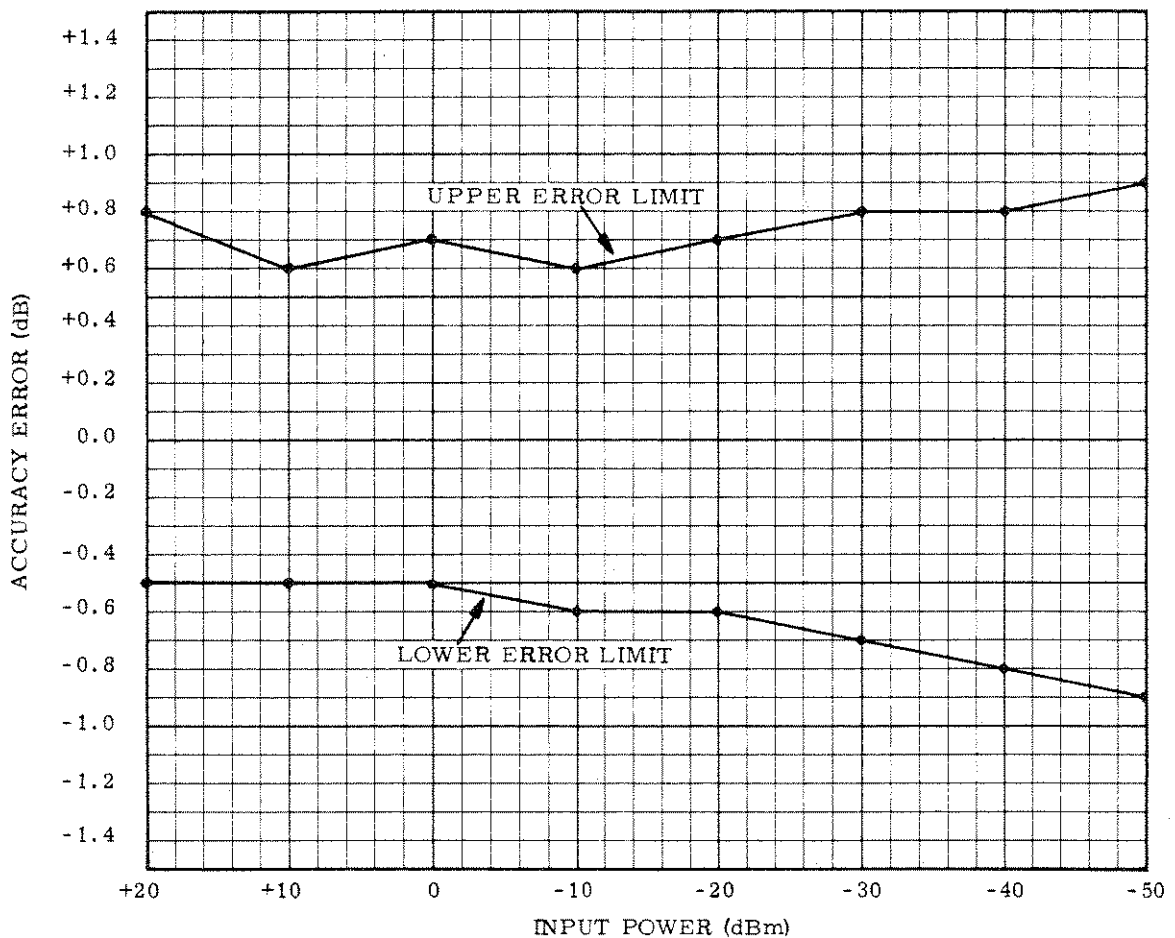
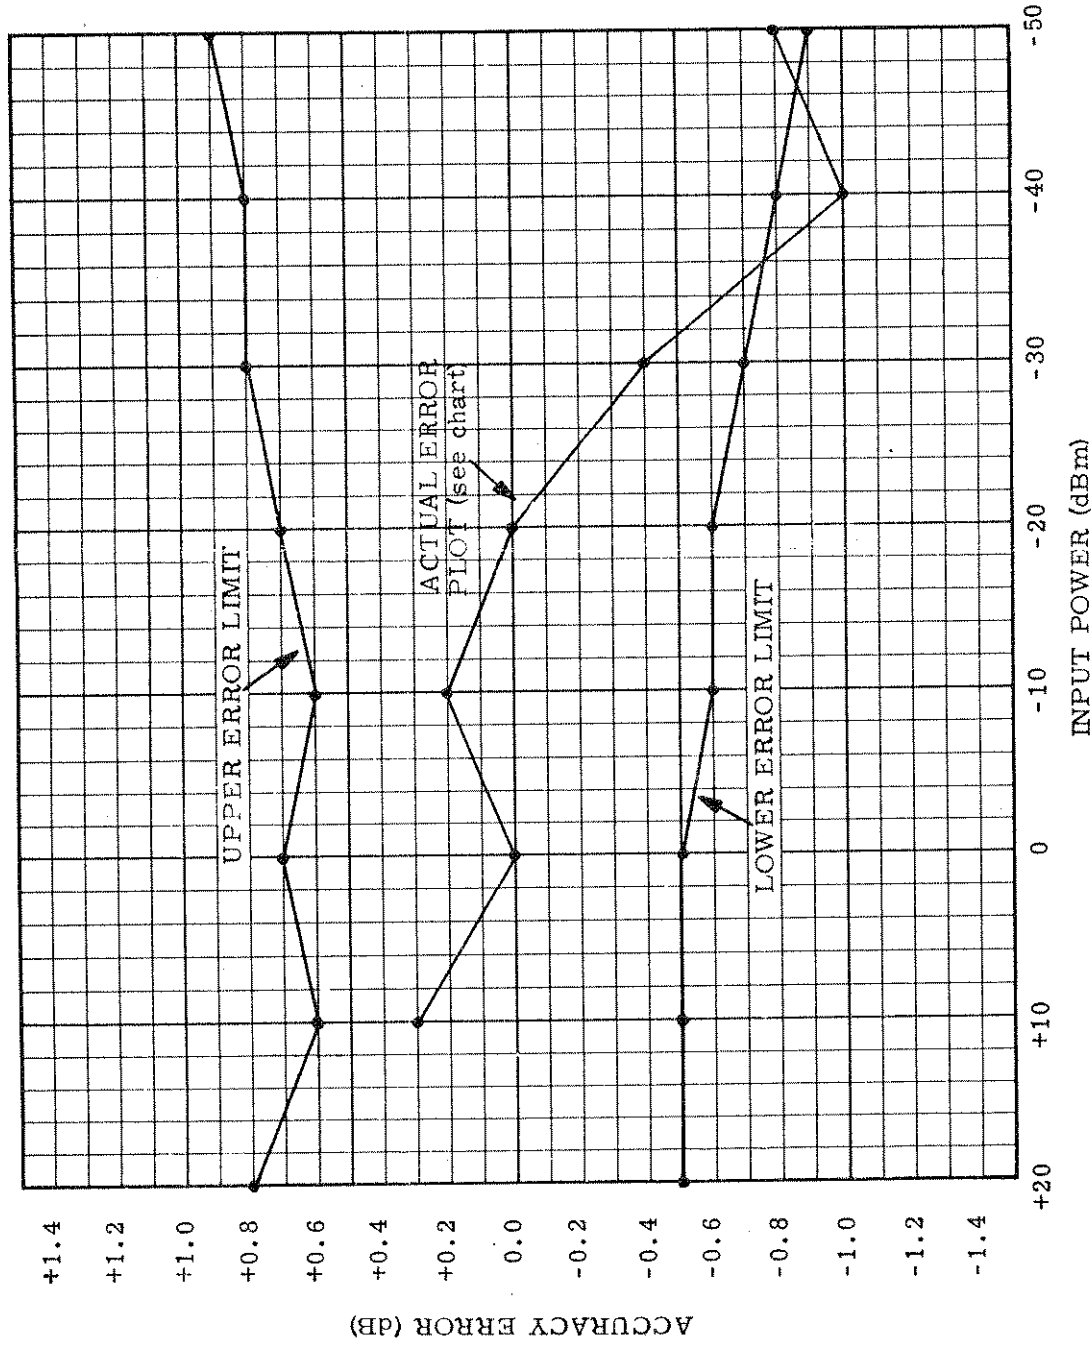

Figure 5-7. A&B Log Amplifier Response Graph
Figure 5-8. Example Describing How To Make R181 OFFSET ADJUSTMENT
2. Construct a graph similar to that shown in Figure 5-7. When the accuracy error reading at each Attenuator Dial Setting (Table 5-1) and at +16 dBm is plotted onto the graph, the graph will show the overall shape of the log amplifier response curve. The two accuracy potentiometers, R181 and R154, do not adjust individual response points; they adjust the overall shape of the response curve. Potentiometer R181 (offset) moves the curve up or down and potentiometer R154 (gain) alters the response curve's slope.
- If by moving the plot up or down all of the response points can be brought within the upper and lower error limits (Figure 5-7), adjust R181. Figure 5-8 describes the R181 adjustment.
m. If Channel R power accuracy readings are clearly out of tolerance (refer to paragraph 4-4), perform Channel R log accuracy adjustments in the same manner described for Channel A&B (refer to subparagraph j, above, and Figures 5-8 and 5-9). For the Channel R response curve, slope is adjusted using R230 and offset (up/down) is adjusted using R294.